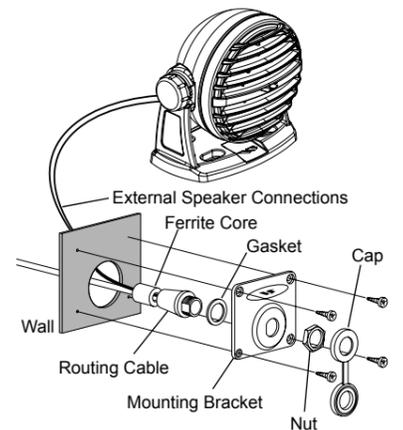

FIGURE 3
- Referring to Figure 3, make a 1.2" (30 mm) hole in the wall then insert the Extension Cable into this hole. Connect the Gasket and Mount Base to the Extension Cable Connector using the Nut.